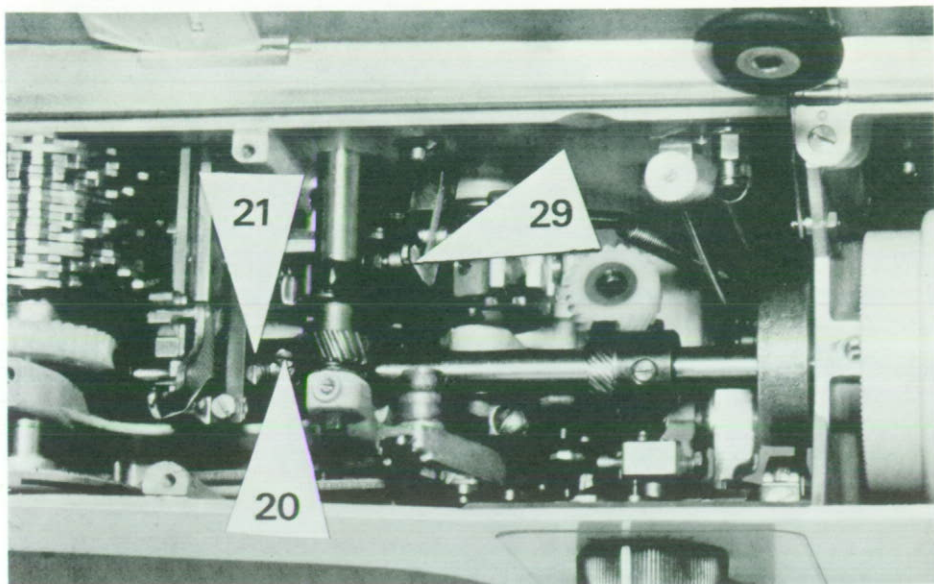

Fig. 13
Loosen the two screws on worm wheel (20). Then, using the screwdriver, secure the worm wheel (20) which is loose on the spindle while pressing the setting ring (21) and turning the handwheel until the correct setting is found (Fig. 13).